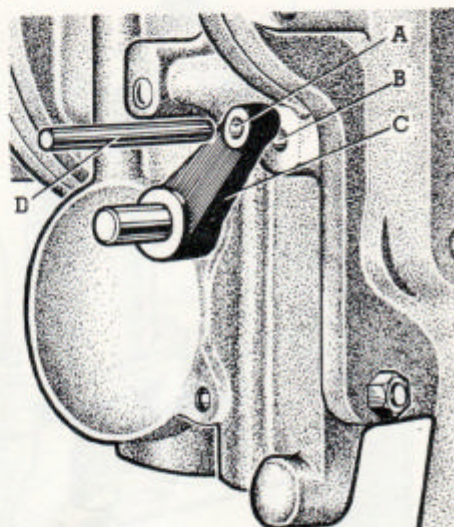

Fig. 1
1. Insert a $\frac{1}{8}$ " pin (D) through the hole (A) in the setting lever (C) into the setting hole (B) on the right hand of the casing. The operating valve in the unit is now held open. Fig. 1.